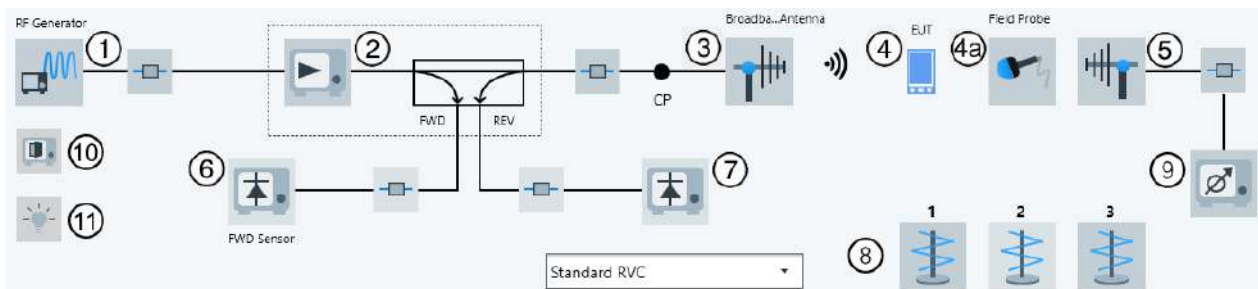

Figure 4-158: EMS hardware setup diagram for Standard RVC in EUT Test View
- "Standard RVC" method (see Figure 4-158)
Other labels = See Figure 4-158
Red = Highlighted differences versus Figure 4-158 for "Closed Loop RVC", which uses no RX antenna